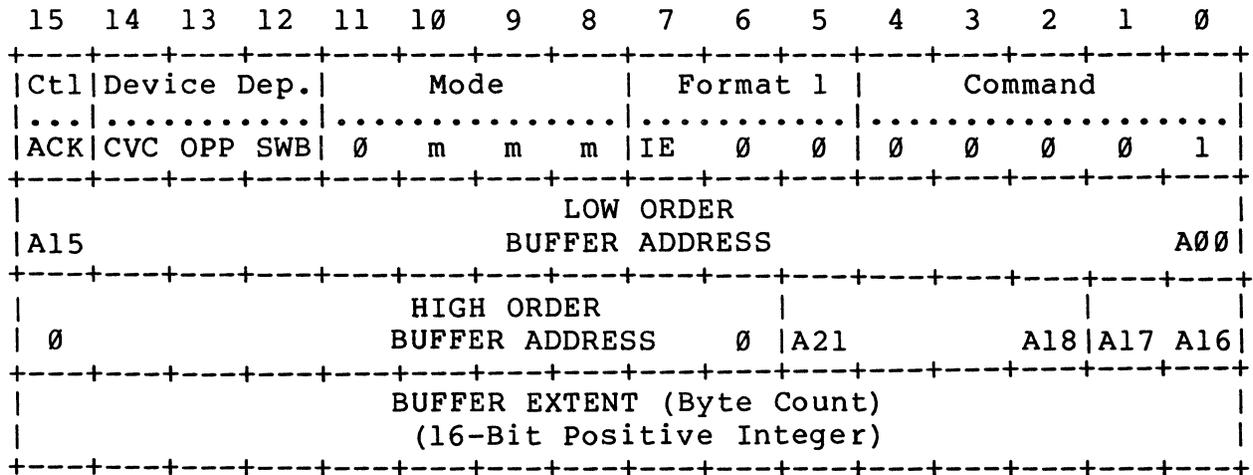

Figure 3-21 Read Command Packet
3.3.4.3 Read Command -- Figure 3-21 illustrates the command packet for a Read. There are four normal modes of operation: Read Forward, Read Reverse, Reread Previous, and Reread Next. Two of these modes (the Rereads) are further controlled by the state of the Opposite (OPP) bit in the packet header word.